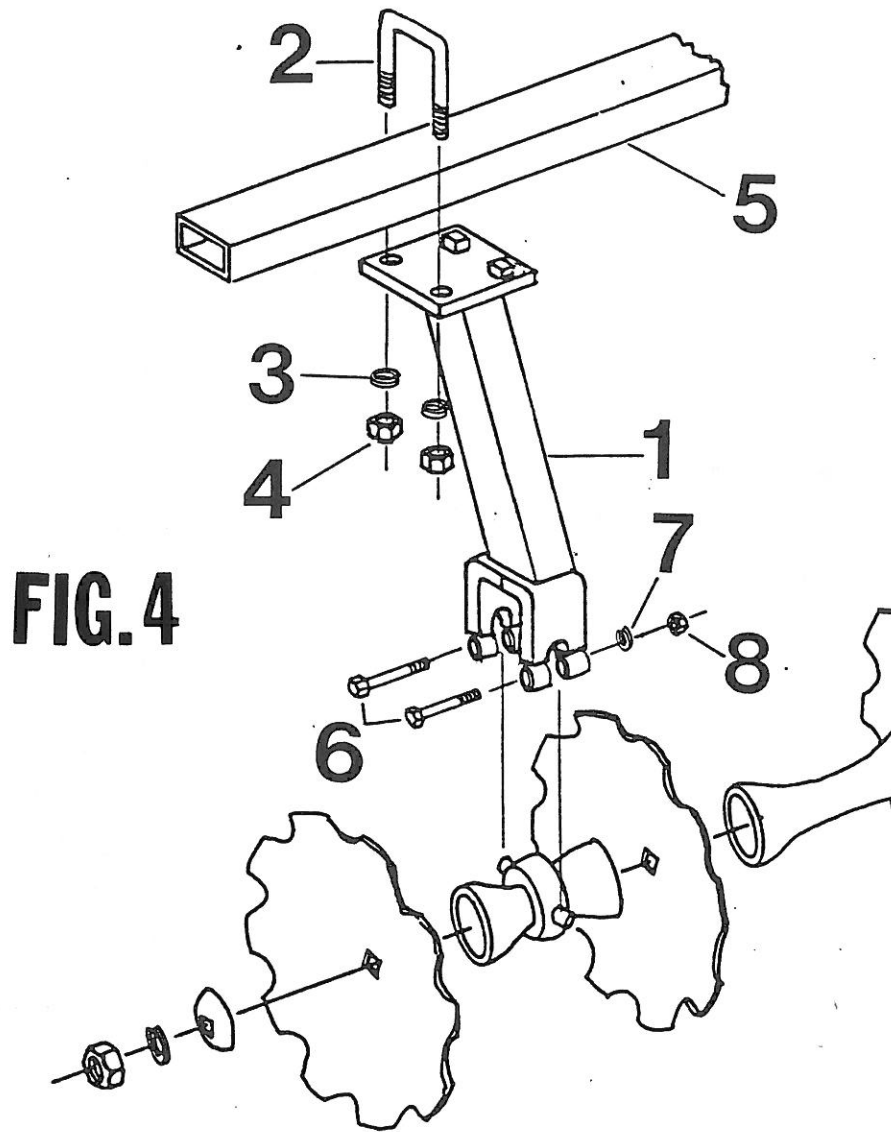

FIG. 4
2. Mount the tubular gang hangers onto the disc gangs at the bearing trunnion housing using the 1/2" x 3 1/2" Gr. 5 hex bolts, Ref. 6, Fig. 4. Attach the hangers to the gang beams with the 7/8" U-bolt, Ref. 2, and loosely tighten the lockwasher and hex nut, Ref. 3 & 4. Align the gangs and check the blade spacing between the gangs and then securely tighten the U-bolts.